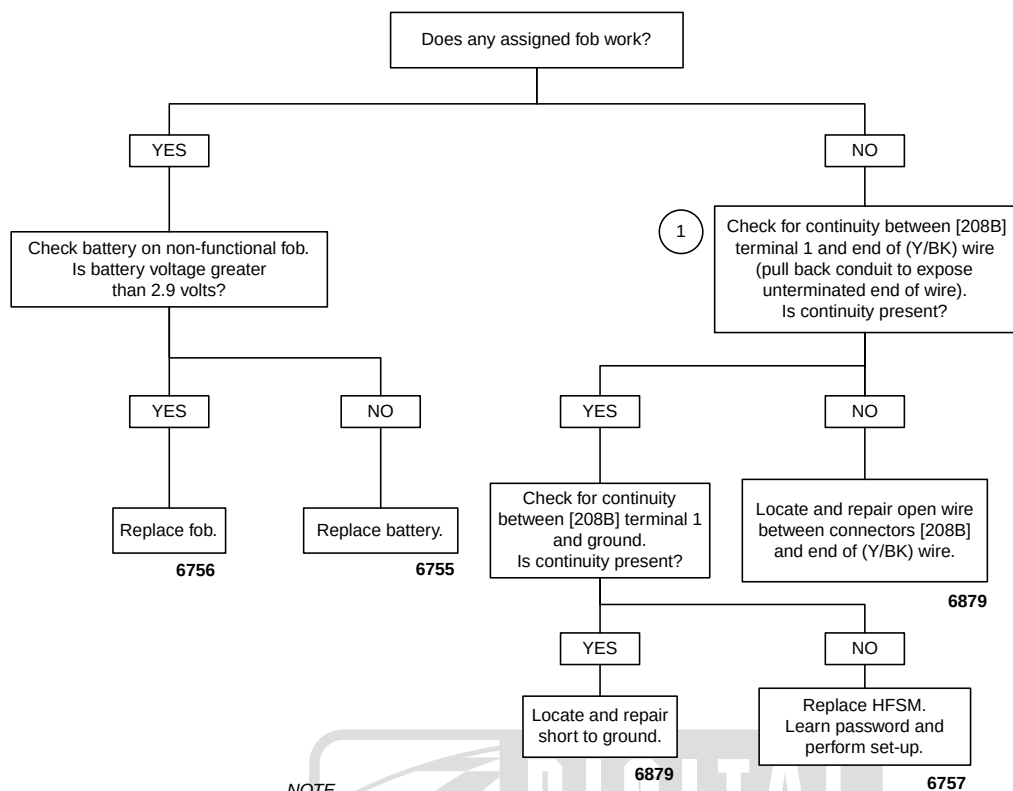

Figure 3-20. Open Fob: HFSM
- See Figure 3-20. Verify fob battery (1) voltage is at least 2.9 volts. See 3.24 HFSM MAINTENANCE.
- Fob serial number (2) is located inside fob. Open fob by twisting a thin blade in the thumbnail slot between fob halves.